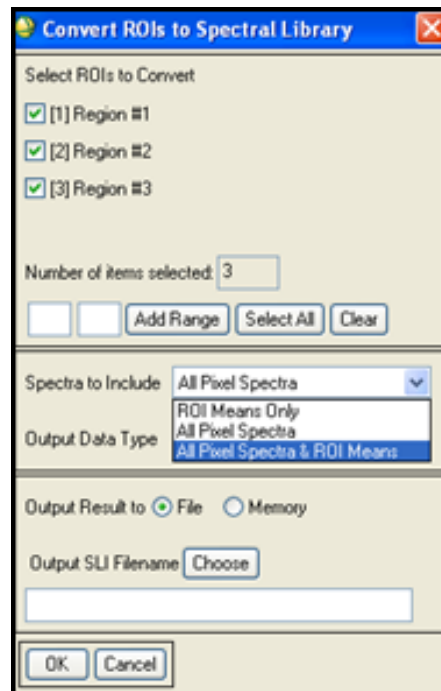

Figure 10b. Convert ROIs to Spectral Library
- The Convert ROIs to Spectral Library box opens and shows the ROIs that were created for this image. Check all boxes (Figure 10b).